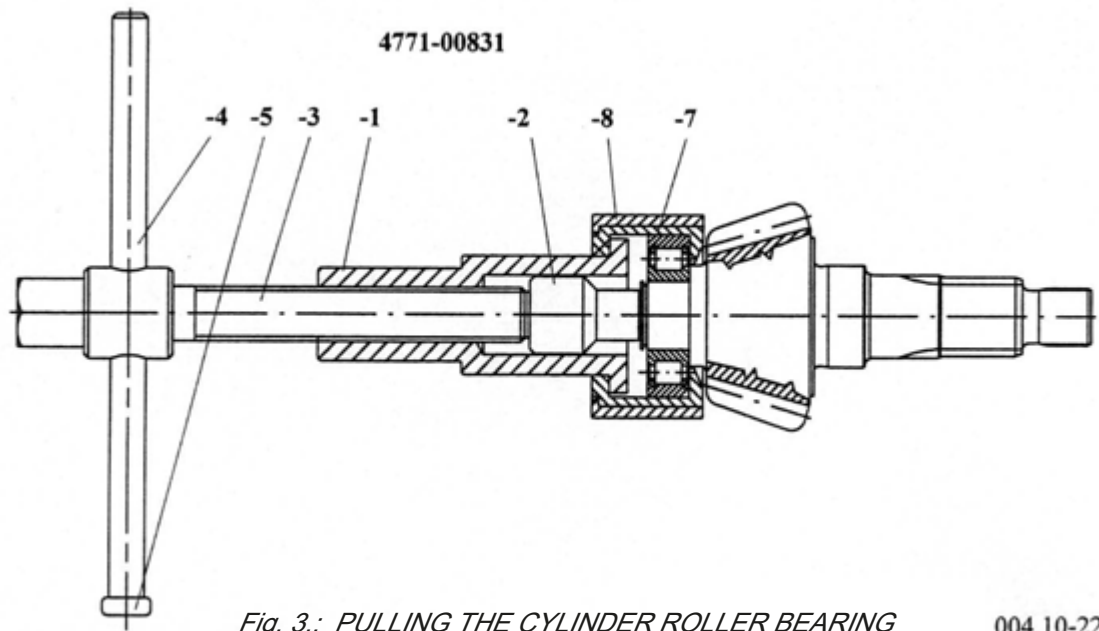

Fig. 3.: PULLING THE CYLINDER ROLLER BEARING
Remove the snap ring (46) from the end of the drive pinion and by means of the device shown and pull the cylindric roller bearing (45) (Fig. 3.).